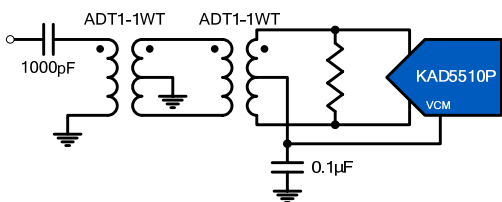

Figure 30. Transformer Input for General Purpose Applications
Best performance is obtained when the analog inputs are driven differentially. The common mode output voltage, VCM, should be used to properly bias the inputs as shown in Figures 30 through 32. An RF transformer will give the best noise and distortion performance for wideband and/or high intermediate frequency (IF) inputs. Two different transformer input schemes are shown in Figures 30 and 31.